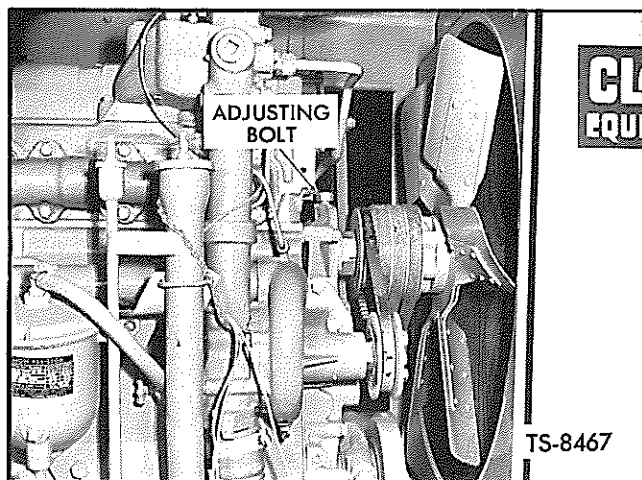

Fig. 12. Check Fan Belt Tension — Cummins Diesel
3. Turn the adjusting bolt so that maximum deflection is obtained on the belts midway between the pulleys as shown in Figure 12. Maximum deflection is  $1\frac{3}{4}$  inch for Cummins Diesels.